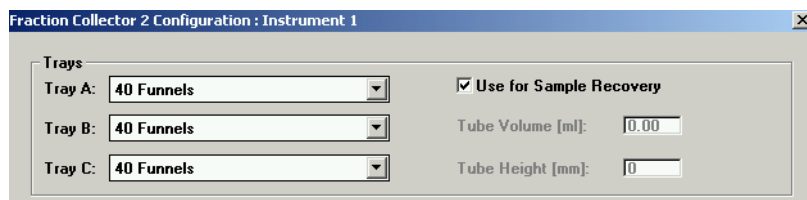

Figure 24 Sample Recovery Fraction Collector
- The preferred recovery strategy is to install multiple fraction collectors in your LC systems and use the last of those fraction collectors for recovery. This recovery fraction collector can be selected in the Configuration dialog box as displayed in Figure 24 on page 78. The fourth fraction collector in your systems will always be used for sample recovery. Also read “Configuring Multiple Fraction Collectors” on page 56.